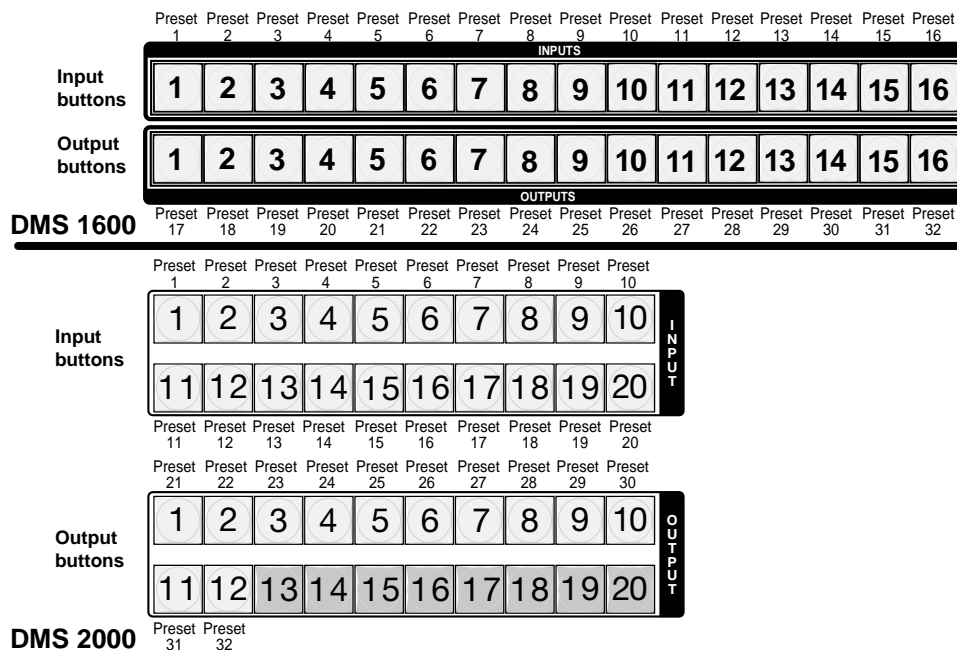

Figure 22. DMS 1600 and DMS 2000 Preset Locations
- On the DMS 1600 and DMS 2000, the preset locations are assigned to both the input and output buttons (see figure 22).